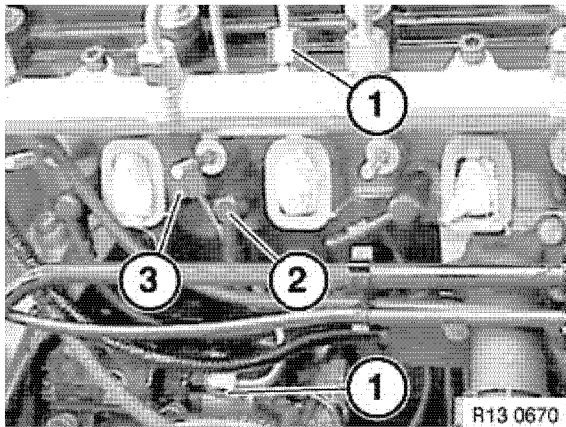

Figure 5-41
8. Install high-pressure pump-to-fuel rail line (1, **Figure 5-41**).
4BY3 Engines: Install rubber mount (3, **Figure 5-41**).
9. Install the glow plugs (2, **Figure 5-41**).